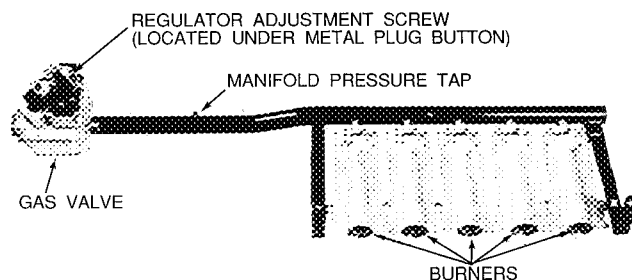

**Fig. 42 — Burner Tray Details
11. Slide the burner tray out of the unit (see Fig. 42).